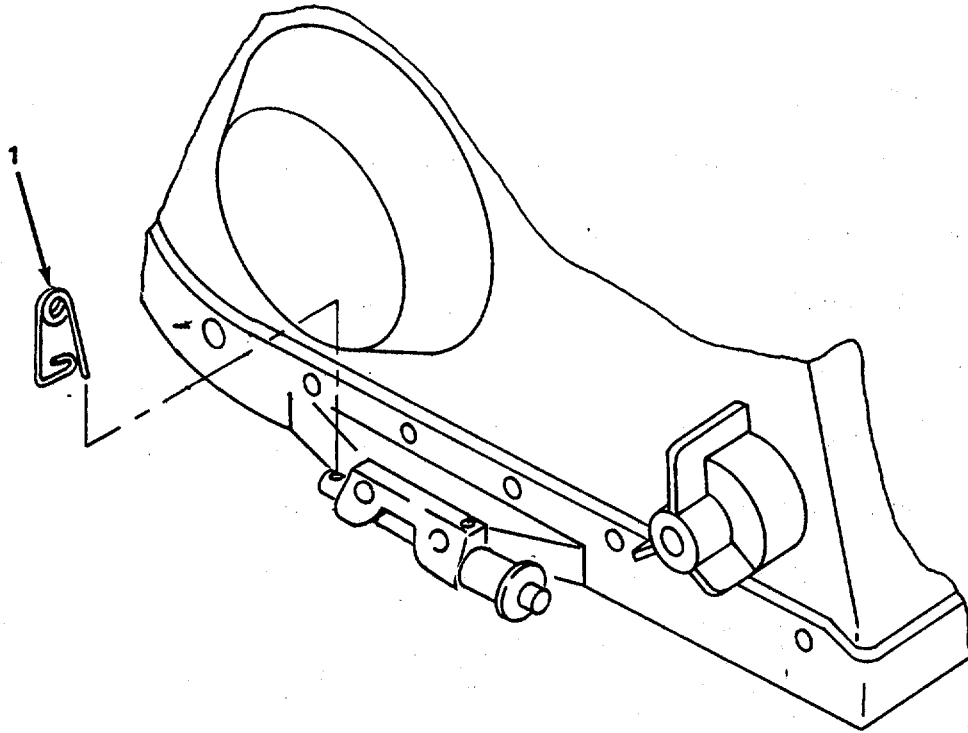

Figure 4-23. Safety Pin, Replace.
(3) *Replace safety pin.* (figure 4-23)
- (a) Remove safety pin (1) from quick release pin (2).
- (b) Install new safety pin (1) in quick release pin (2).